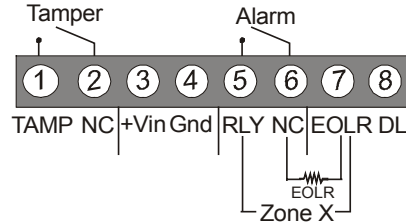

Figure 1: Terminal Block
- Connect the wires** to the terminal block (as shown in Figure 1). **Note: This equipment should be installed in accordance with the NFPA 70 standard.**
Terminal 7: Optional end of line resistor - see Figure 1.